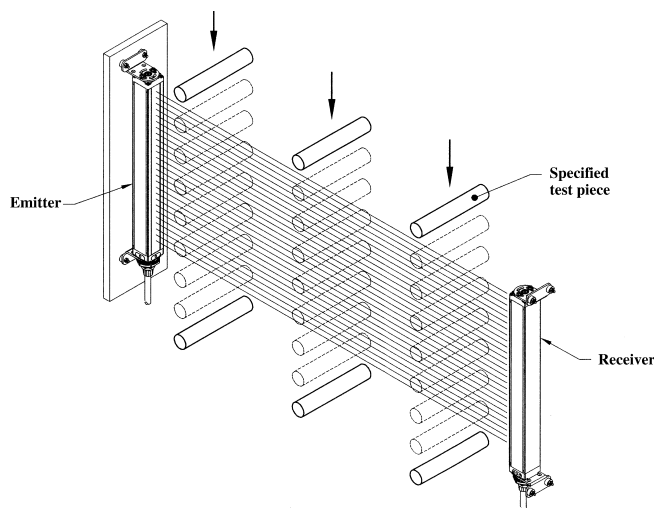

Figure 2. Use of Test Piece
b) With the guarded machine at rest, slowly pass the appropriate specified test piece downward through the defined area at three points: close to the receiver column, close to the emitter column, and midway between the emitter and receiver columns (Figure 2, below). In each case, the red status indicator should come "on" and remain "on" for as long as the test piece is within the defined area.